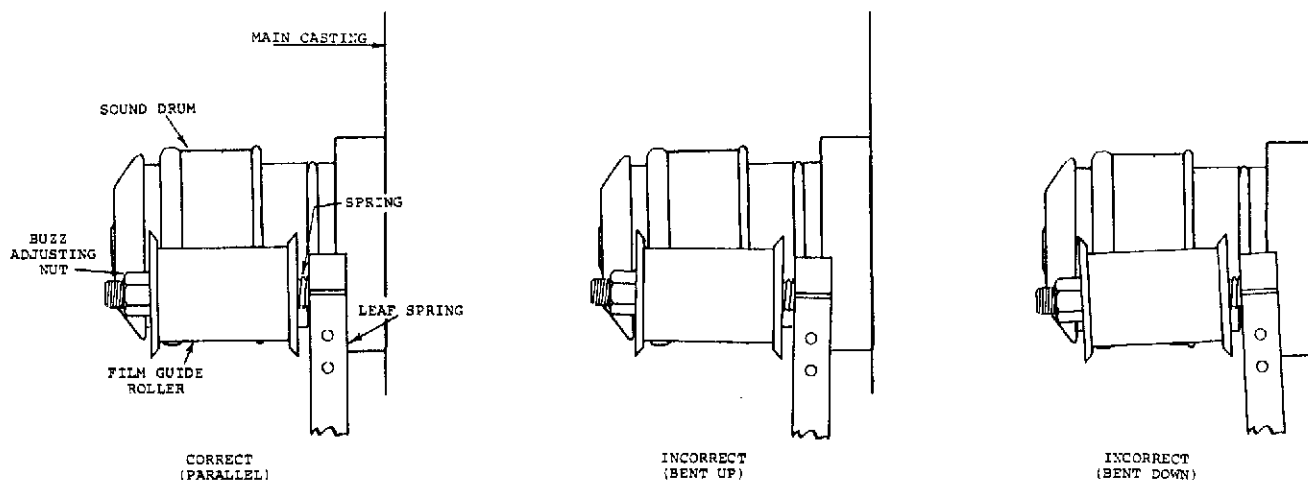

Figure 4-24. FILM GUIDE ROLLER ADJUSTMENT
1. Place Master Control Lever in Forward position and observe axis of Film Guide Roller to be parallel to axis of Sound Drum (Figure 4-24). Twist Leaf Spring to establish this relationship. The outside flange of Guide Roller must also seat in groove of Sound Drum. Adjust Buzz Adjusting Nut to insure this. (When this adjustment has been properly made, the outside edge of the Guide Roller will contact the Sound Drum just an instant before the inside edge does when the Master Control Lever is moved from Thread to Forward).